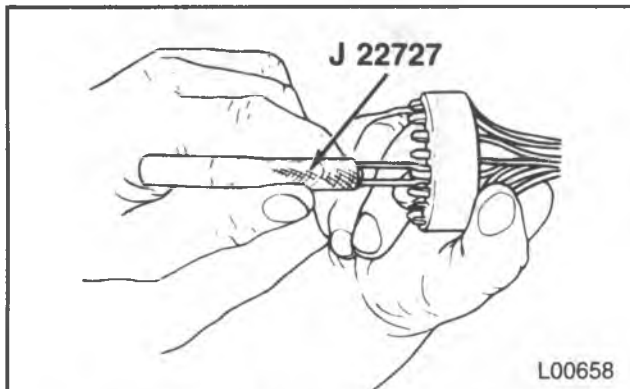

Figure 40 — Connector Wire Removal
- Mark the location of each wire in the half-moon connector and then remove each individual wire from the connector. Use J 22727 (figure 40). Insert the tool into the lower end of the connector and push in until the tool bottoms on the connector. Remove the tool and then pull the wire from the connector.